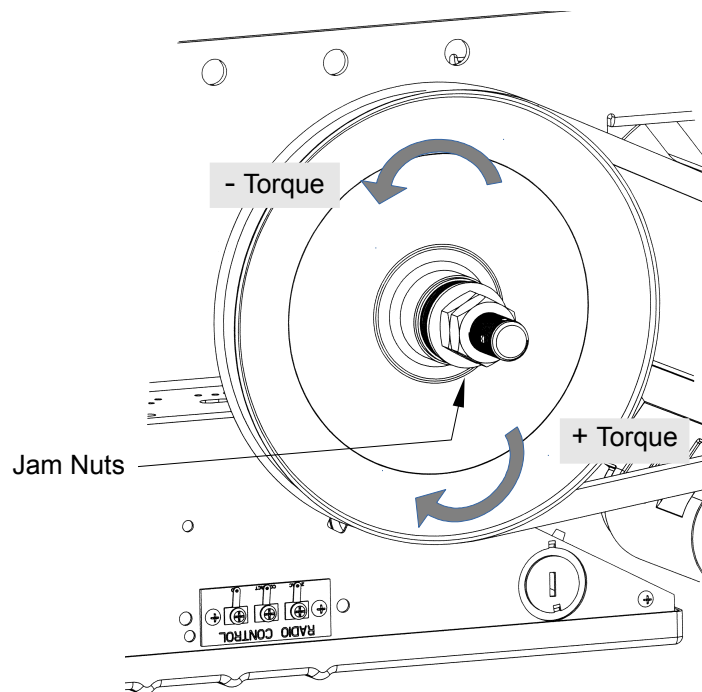

Figure 31 - Clutch Adjustment
1. Unlock the jam nuts with two (2) 7/8" keys, refer to Figure 31.